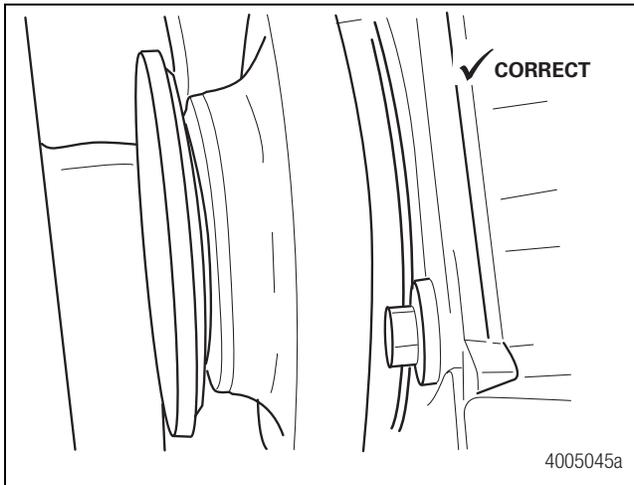
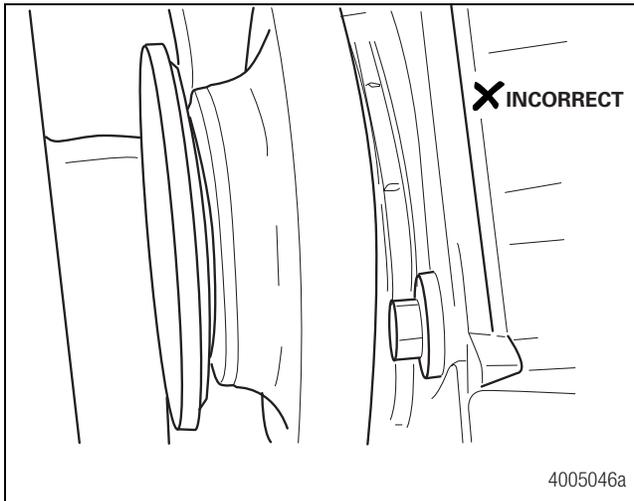
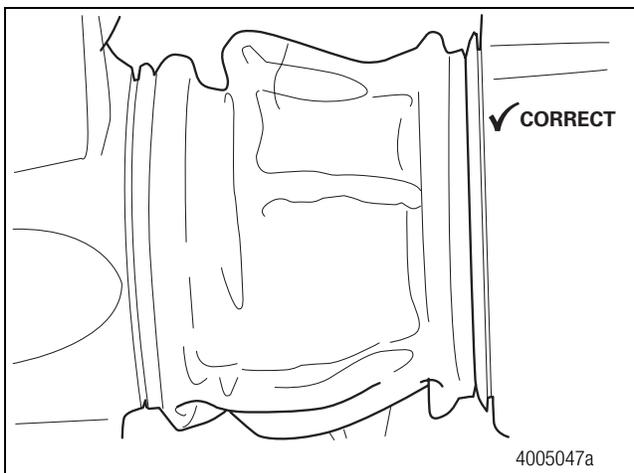

Figure 4.9
Figure 4.10
Figure 4.11
12. With the pads removed, visually inspect the caliper slide pin boots and piston boots. All slide pin and piston boots should be free from damage and should be correctly seated. Figure 4.9, Figure 4.10 and Figure 4.11.